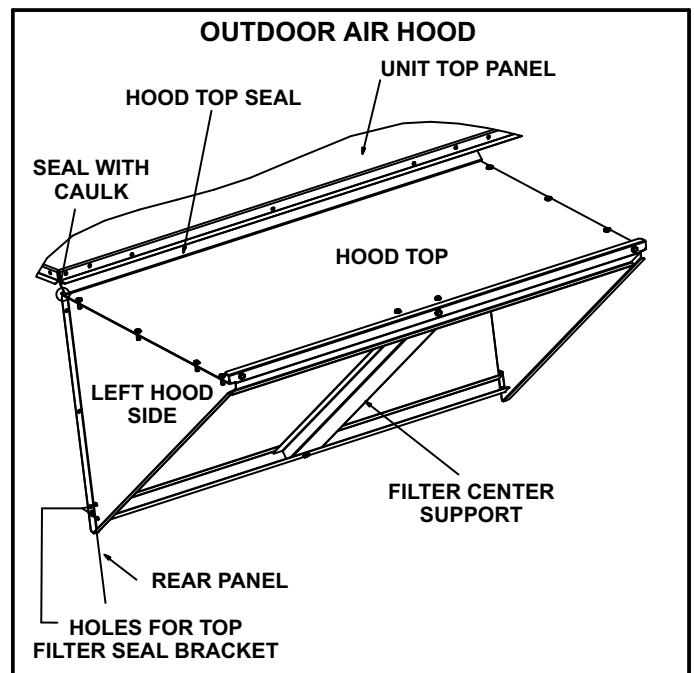

FIGURE 12
- 9- Slide two filters into slot of the bottom filter seal bracket. Insert a filter spacer between the two filters and secure it to the hood top panel. Use the provided threaded hex insert and a #10 - 32 X 1/2" thread forming screw to secure the hood top filter bracket. See figure 12.